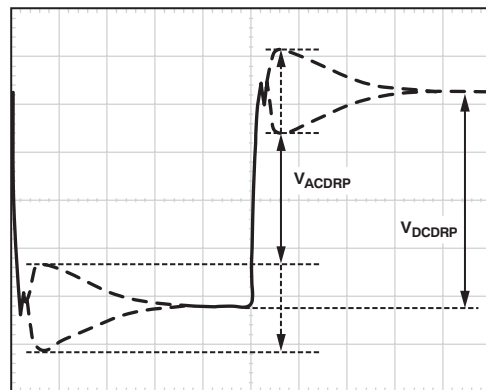

Figure 38. AC Load Line Waveform
5. The resulting waveform will be similar to that shown in Figure 38. Use the horizontal cursors to measure V_{ACDRP} and V_{DCDRP} , as shown in Figure 38. Do not measure the under-shoot or overshoot that occurs immediately after the step.